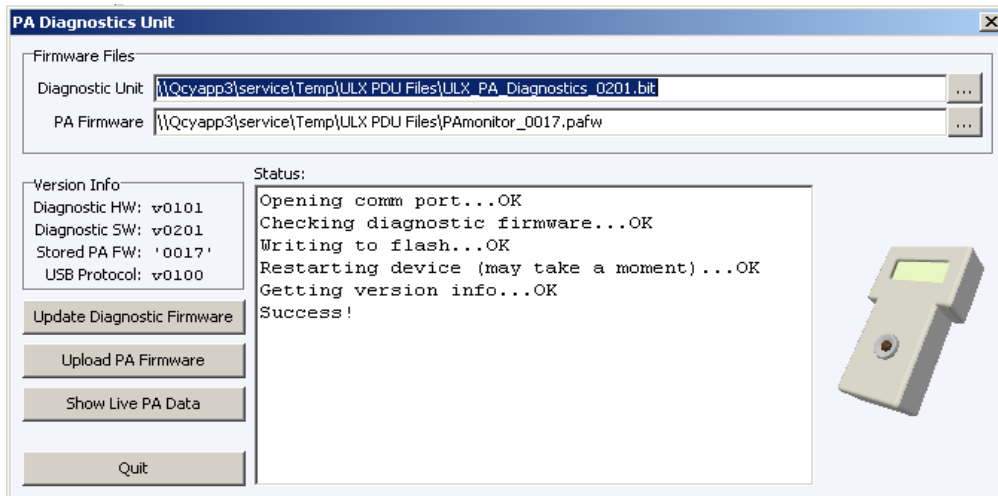

Figure 5-4 PDU Software Status Screen
- STEP 6** To upload new diagnostic firmware to the PDU, use the mouse to press the Update Diagnostic Firmware software button. The Status screen in Figure 5-4 displays when the program is updated.